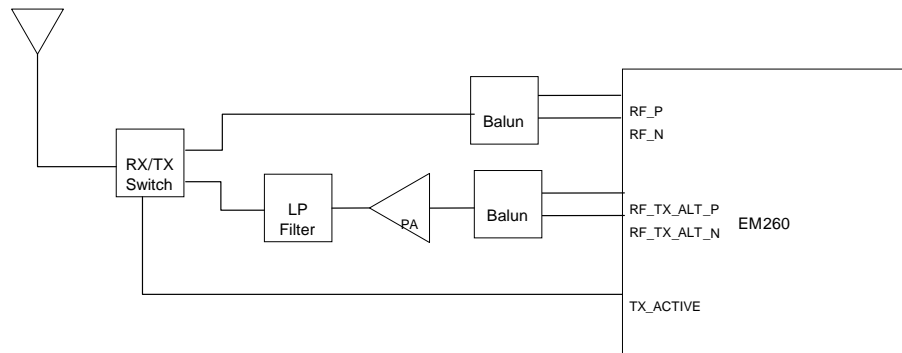

Figure 14. Block diagram of an EM260 with a PA
As previously stated, an external power amplifier (PA) can be added to an EM260-based design to extend the overall communication range. The EM260 contains a dedicated TX port (RF\_TX\_ALT\_P/N) to allow easy connection to an external PA. Figure 14 illustrates a block diagram for the external PA connection.
As shown in Figure 14, there are dedicated TX and RX signal paths to the EM260. The TX path contains the external power amplifier as well as the harmonic filter. Each path contains a ceramic RF balun.